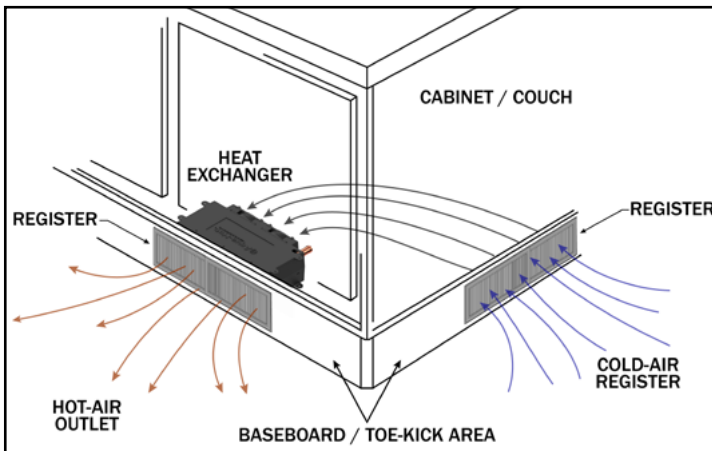

Figure 22
1. Cut out a 2.5" x 10" opening for each heat exchanger outlet and cold-air return grate as shown in Figure 22.